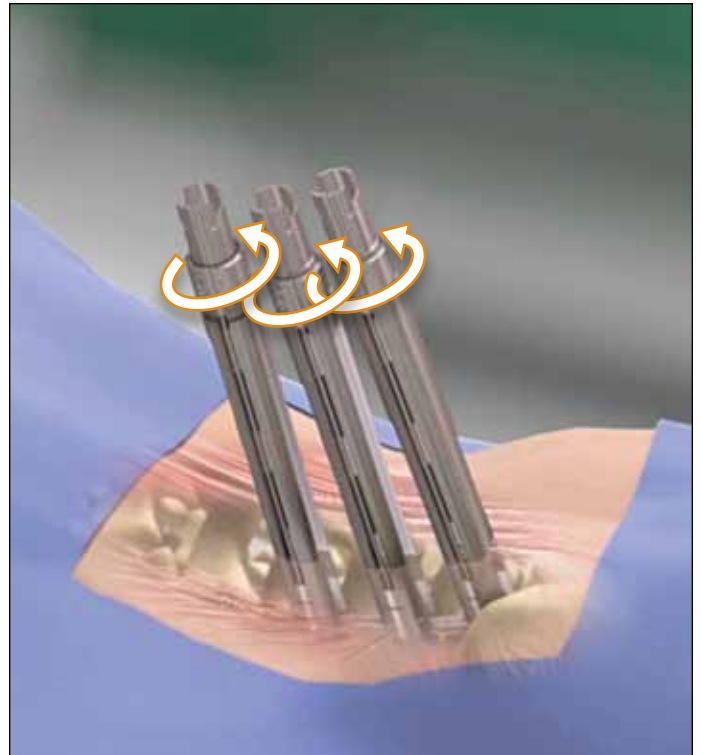

FIG. 39
- Rotate the knob at the proximal end of the Screw Extension counterclockwise until it stops. Remove the Screw Extension, leaving the final construct in place. (FIG. 39)